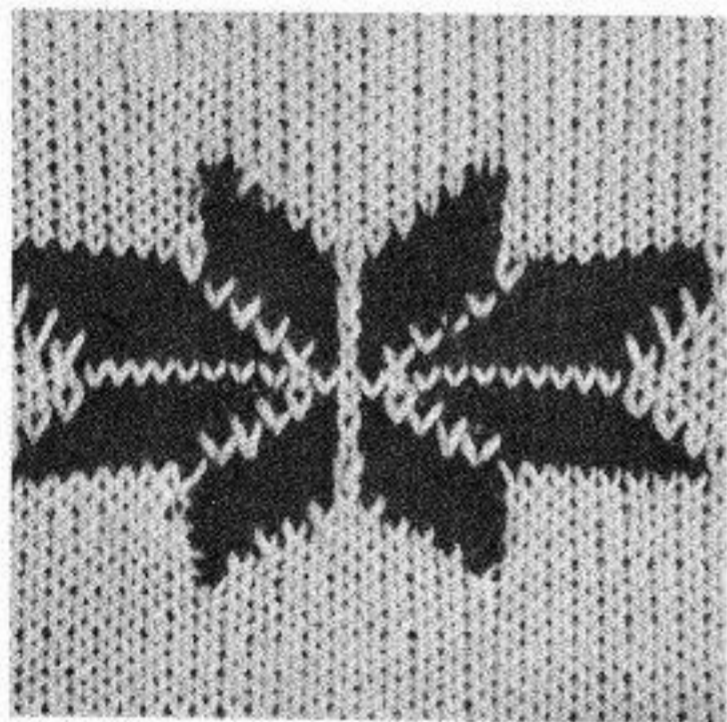
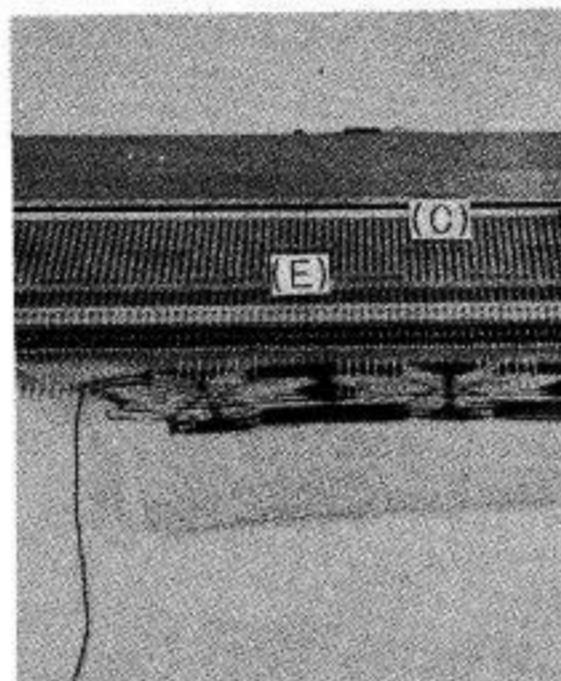

Fig. 22
Fig. 24
Where the design consists of 11 or more adjacent stitches in the one colour within the pattern (see Figs. 22 & 23) i.e. beyond the range of the Automatic Selector, the manual method as described below should be used.
- (1) Turn both Pattern Control Knobs to 'S'. Move the Shifting Cam Lever to "C" and both Return Cam Lever in Position "2".
- (2) The number of needles required for the contrasting colour should be brought forward into Position (E) (Holding Position) — Fig. 24. The contrast colour wool is then threaded in the Carriage Feeder and the row knitted.
- (3) With the carriage now at the opposite end bring into Holding Position (E) those needles which were previously in Position (C). Change to the main colour and knit 1 row.
- (4) Repeat this procedure selecting the needles according to the requirements of the two-colour patterns illustrated at Figs. 22 & 23